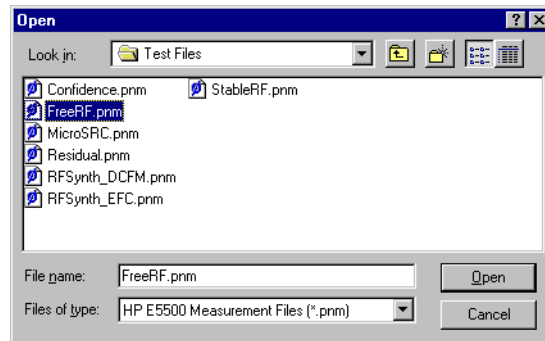

Figure 7-12 Select the Parameters Definition File
- 3 In the **File Name** box, choose “**FreeRF.pnm**”. See Figure 7-12